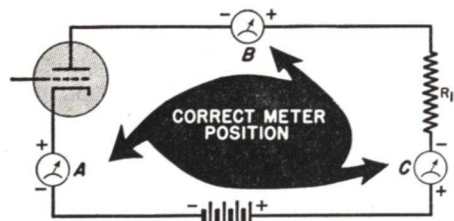
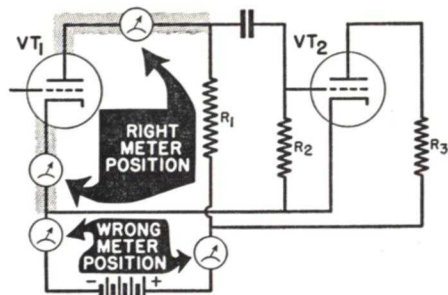

FIG. 8. Be sure to place a current meter in series and use the proper polarity.
FIG. 9. The right meter position is important.
2. Correct Point. In the simple circuit shown in Fig. 8, the meter may be placed anywhere in the circuit. The meter readings at A , B and C will be the same, because the same current flows through the entire circuit. However, when checking screen-grid or pentode tubes another problem arises. The screen-grid current also flows in the cathode lead in returning to the B supply. Hence, the plate current alone
When more than one tube is used, as shown in Fig. 9, notice there are now two paths for current, one for each tube. If you want to measure the plate current for tube VT_1 only, be careful to locate a point where *only* the plate current of this tube is flowing. The cathode lead of tube VT_2 may connect
directly to the cathode of VT_1 and the B+ ends of resistors R_1 and R_3 may be directly connected together, so positions such as A and C of Fig. 8 may not be usable. The shaded areas of Fig. 9 show the proper places to measure the plate current of VT_1 . You must be sure to insert your meter where only the *desired* current is flowing. Otherwise, false readings will result. The meter may even be damaged if the sum of the currents exceeds the meter range you have chosen.
3. Current Range. The current range of the meter must be higher than the expected current; otherwise, the meter may be badly damaged or even ruined. The circuit current is determined by Ohm's Law, $I = E/R$, where R is the total of all the resistance in the circuit. In a circuit like Fig. 8, with a fixed supply voltage, the tube plate resistance plus resistor R_1 determines the current flow. The current will be about 5 to 10 ma. if this is an ordinary amplifier tube. However, if the tube or resistor R_1 is short-circuited in some
back to Fig. 8 where the correct meter polarity is indicated. When a tube is in the circuit, it acts as a signpost, showing the direction of electron flow through the entire circuit. Electrons, of course, flow only from the cathode of a tube to its plate and continue to flow in the same direction through the rest of the circuit. To make the meter needle read up-scale, the electrons must *enter* the *negative* meter terminal. Should the meter connections be reversed so the electrons enter the meter terminal marked +, the meter needle will read down-scale.